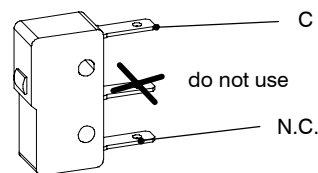

Fig. 60
- 2 Measure the electrical resistance between the tabs marked C. and N.C. (Fig. 60). The contact must be normally open.
Refer to Fig. 60 for the correct wiring connectors on the switch